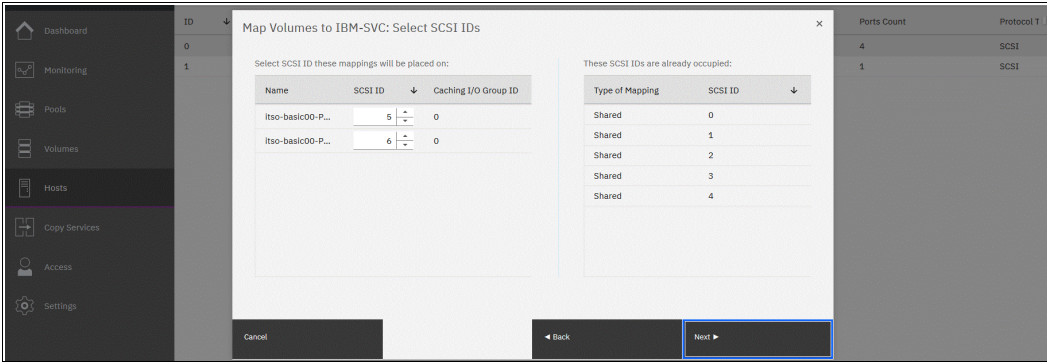

Figure 7-64 Assigning a SCSI ID to mapped volumes manually
- The system assigns the next available SCSI ID for new mappings automatically by default. However, SCSI LUN IDs can be assigned manually by clicking **Self Assign** (see Figure 7-64).